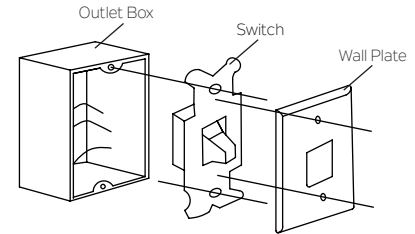

Fig. 17
Step 1. Remove the existing wall plate and the old switch from the wall outlet box. Disconnect wires. (Fig. 17)